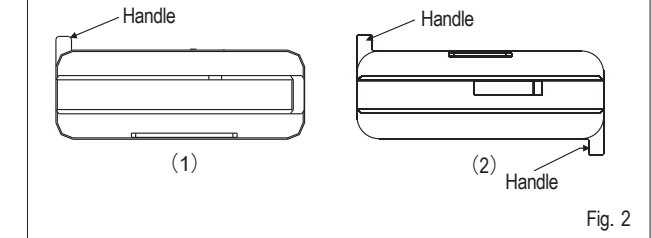

Fig. 2
4. Before installation, set the handle to the position shown (Fig. 2).